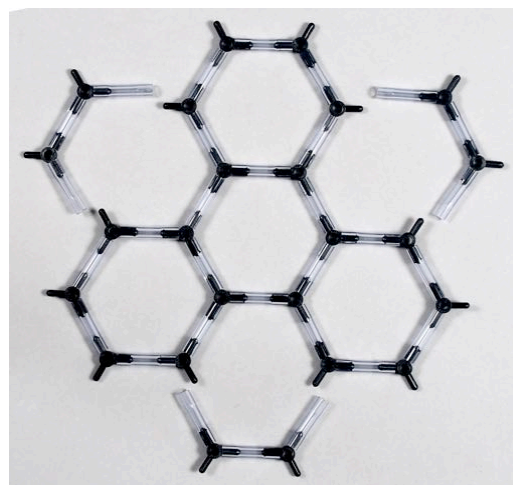

Fig 5 Enlarging the layer with three more rings.
3. Construct three more hexagons around the middle hexagon with two of the 3-peg carbon atom centers and three clear tubes as shown in Fig 5.